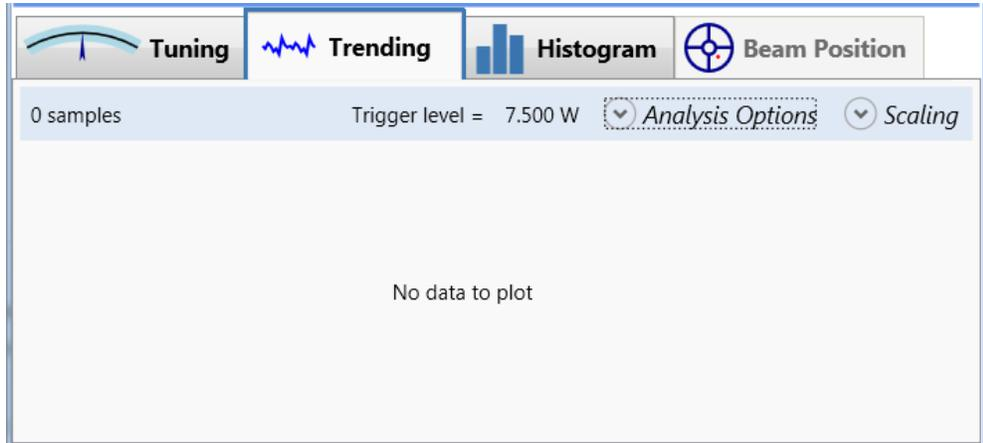

Figure 6-7. Trending Tab
5. **[Trending tab]** Click the Trending tab in the lower half of the window to display the Graphics viewing panel, shown in Figure 6-7.